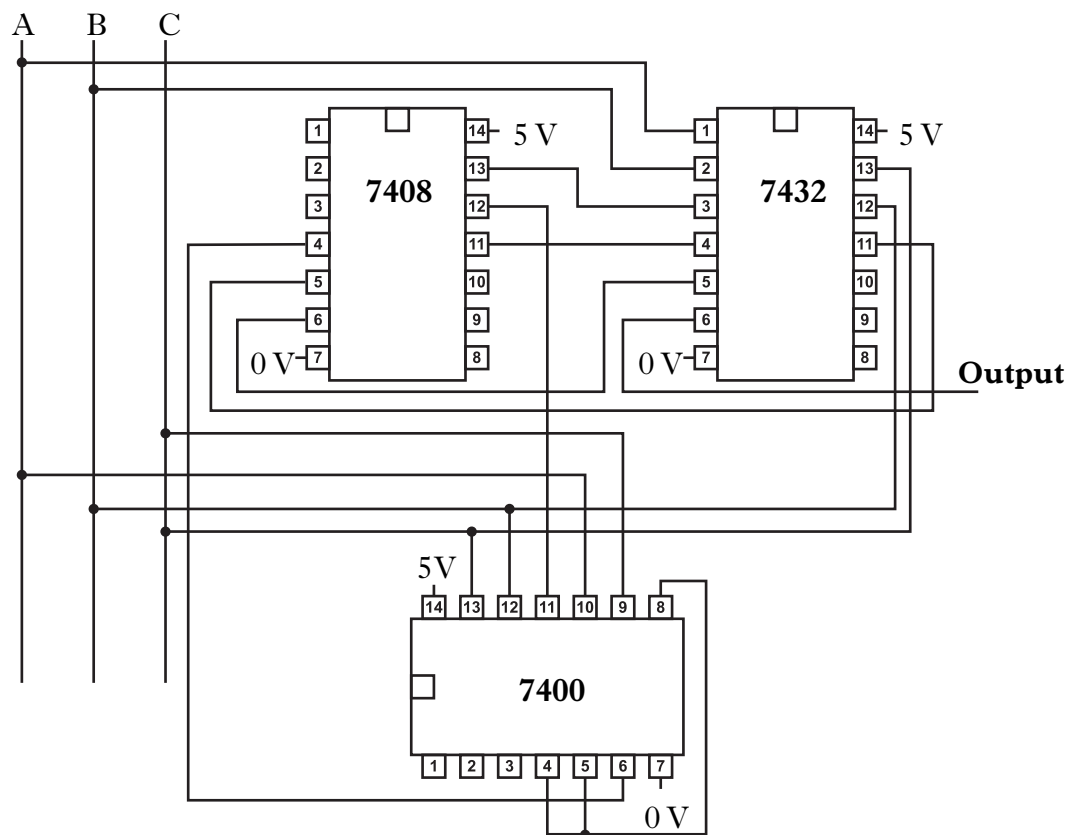

Figure Q10(b)
- (b) Using Worksheet Q10(b) and the supplied datasheet for the circuit shown in Figure Q10(b) below, draw the logic circuit diagram on the worksheet and label all gate inputs and outputs with the appropriate pin connections.
(c) Using Worksheet Q10(c) for the circuit shown in Figure Q10(c) below: